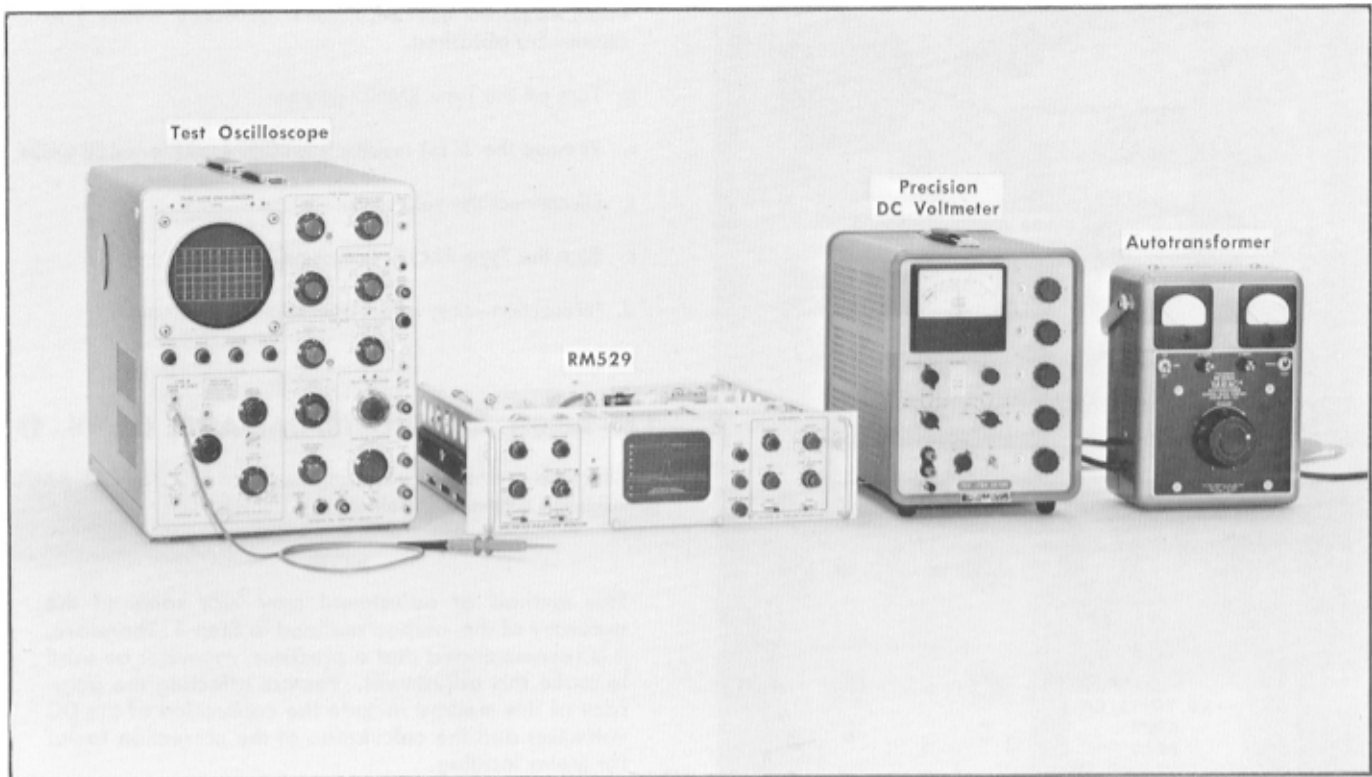

Fig. 6-2. Test equipment setup for steps 1 and 2.
- Test equipment setup is shown in Fig. 6-2.
- a. Test equipment setup is as shown in Fig. 6-2.
- a. Test equipment setup is shown in Fig. 6-2.